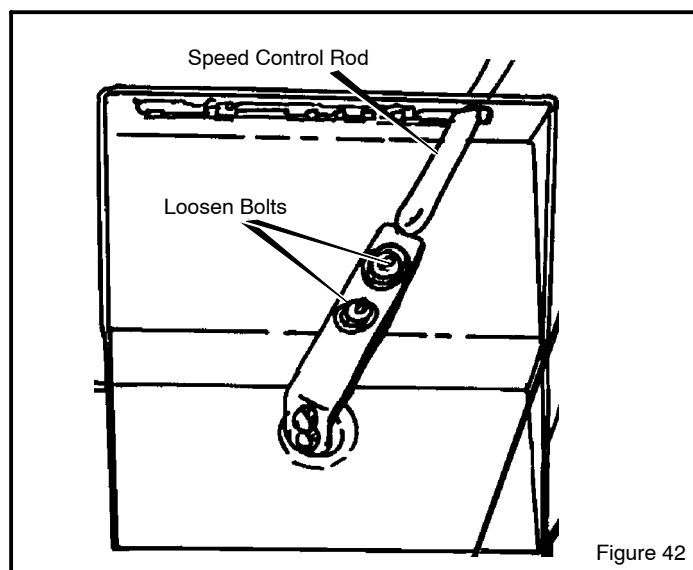

Figure 42
2. Loosen the **bolts** on the **speed control rod** (see Figure 42).
4. Tighten the **bolts** on the **speed control rod** (see Figure 42).